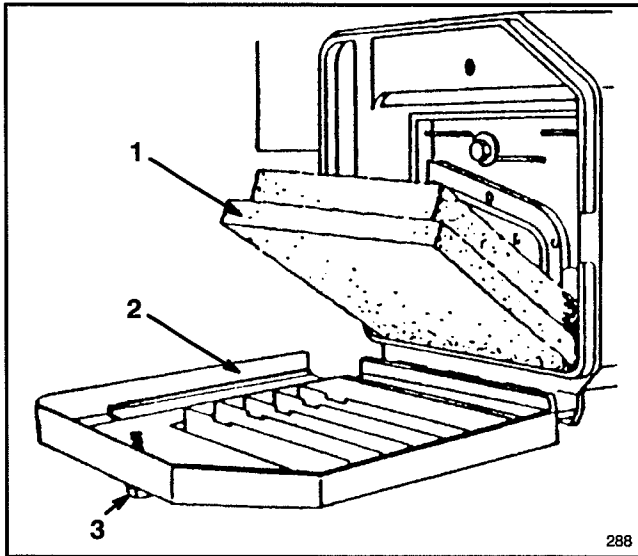

Figure 13
2. Rotate knob securing air cleaner cover to engine until cover can be removed. Clean cover thoroughly (Fig. 13).
3. If the foam element is dirty, remove it from air cleaner body (Fig. 13). Clean thoroughly.